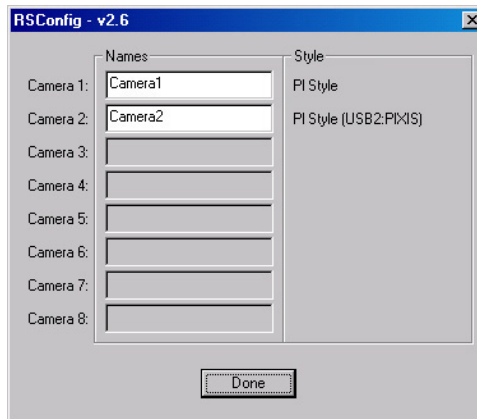

Figure 45. RSConfig dialog box: Two Camera Styles
4. Run RSConfig.exe (accessible from the **Windows|Start|Programs|PI Acton** menu). If the USB 2.0 camera is listed as Camera 2 (Princeton Style (USB2:PIXIS) in Figure 45), you will have to edit the PVCAM.INI file. Refer to *"Editing the PVCAM.INI File"*, page 111, for instructions.